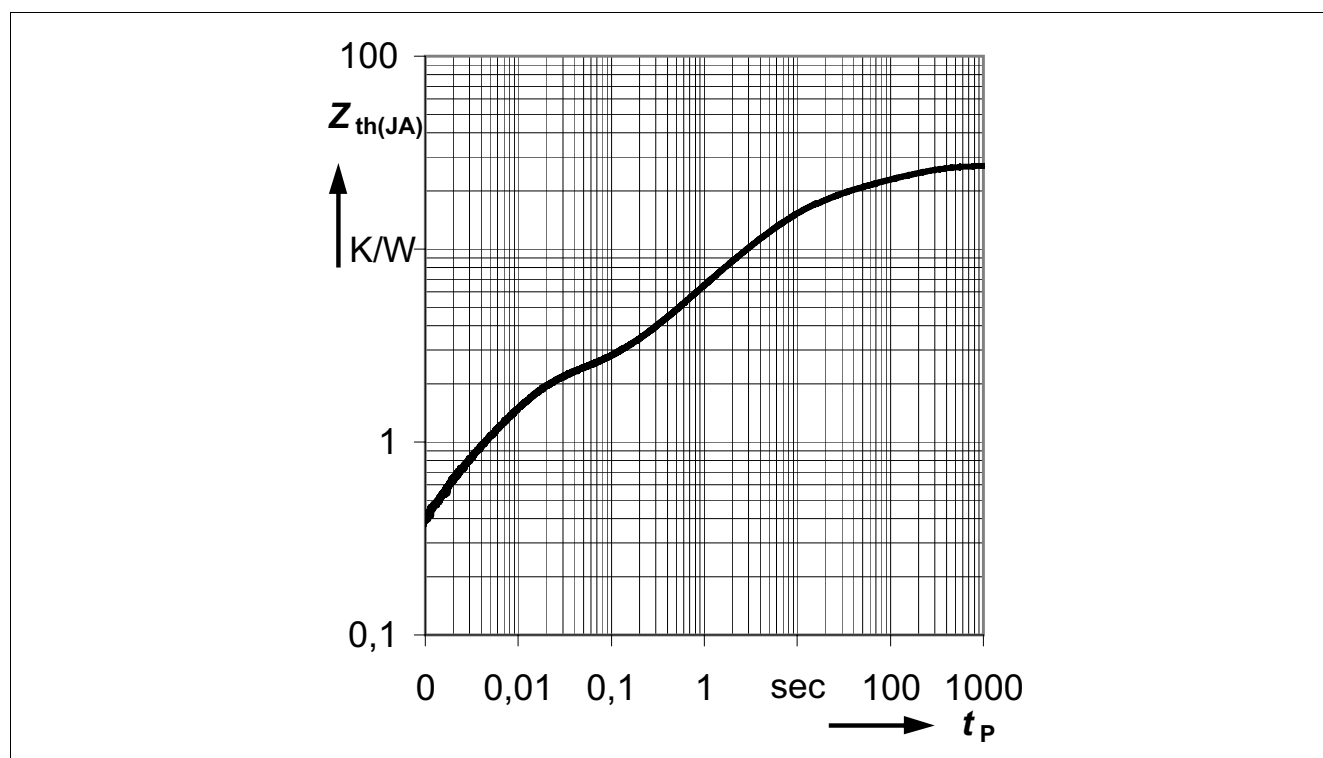

Figure 4 Transient Thermal Impedance $Z_{th(JA)} = f(t_p)$ ⁴⁾
4) Specified R_{thja} value and Figure 4 are according JESD51_7 at natural convection on FR4 2s2p board. The BTS50060-1EGA was measured on a 76.2 x 114.3 x 1.6 mm board with 2 inner copper layers (2 x 70µm Cu, 2 x 35µm Cu) applying power losses of 1.4W at the channel. According to JESD51-5 a thermal via array under the exposed pad contacted the first inner copper layer. $T_a = 25\text{ °C}$.
Figure 4 shows the typical transient thermal impedance of BTS50060-1EGA.